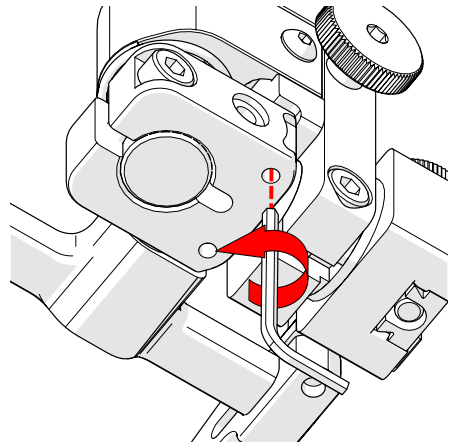

Fig. 133 - Lower 90° stop post
7. Locate the recessed M3 screw (stop post) on the bottom of the probe holder. Unscrew the stop post using a 1.5 mm hex wrench until it has cleared all obstructions. Do not remove the stop post (Fig. 133).